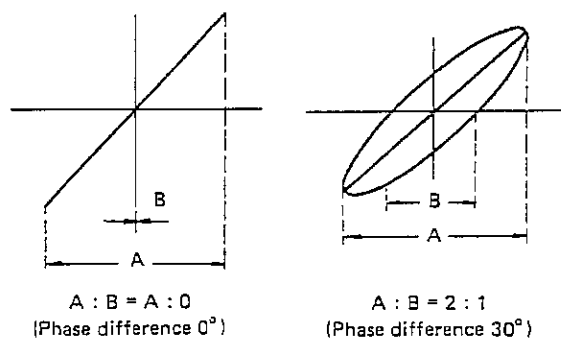

Figure 26
4. Adjust the azimuth adjustment screws (3) (3P + 8S) so that the outputs of CH-1 and CH-2 becomes maximum and the phase difference within 30°. (Refer to figure 26).